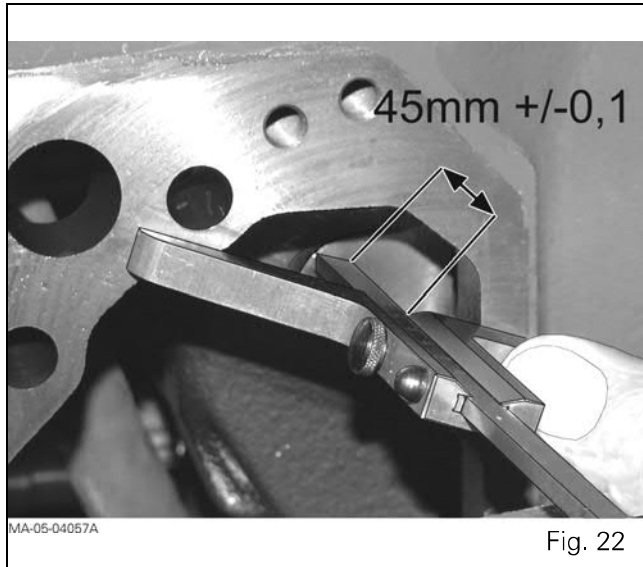

Fig. 22
22. Measure the distance between the housing and the unit before starting to disassemble. It must be the same as shown in Fig. 22.